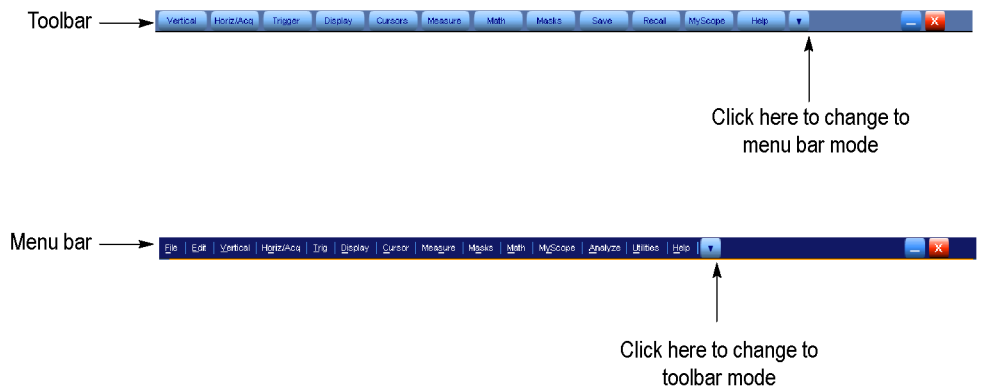

Figure 1: Toolbar and menu bar (< 4 GHz models shown)
- The term "toolbar" refers to a row of buttons at the top of the display. The term "menu bar" refers to a row of menus at the top of the display. You can switch between toolbar and menu bar operating modes by using the menu at the top right of the toolbar or menu bar. (See Figure 1: Toolbar and menu bar (< 4 GHz models shown).)